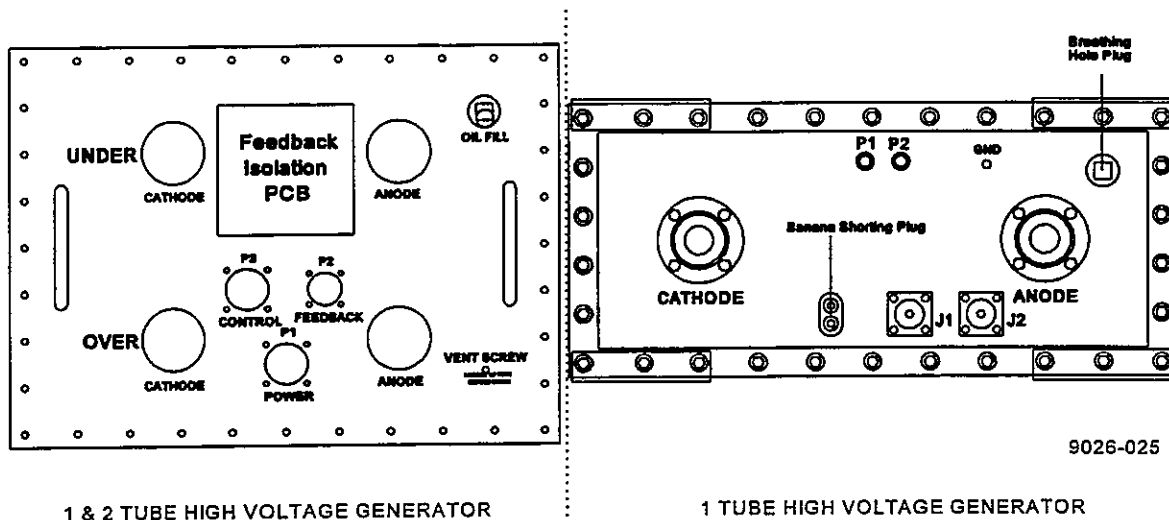

FIGURE 2-5 HIGH VOLTAGE GENERATOR CONNECTIONS
17. Connect the 1-tube high voltage generator as follows (**FIGURE 2-5**):